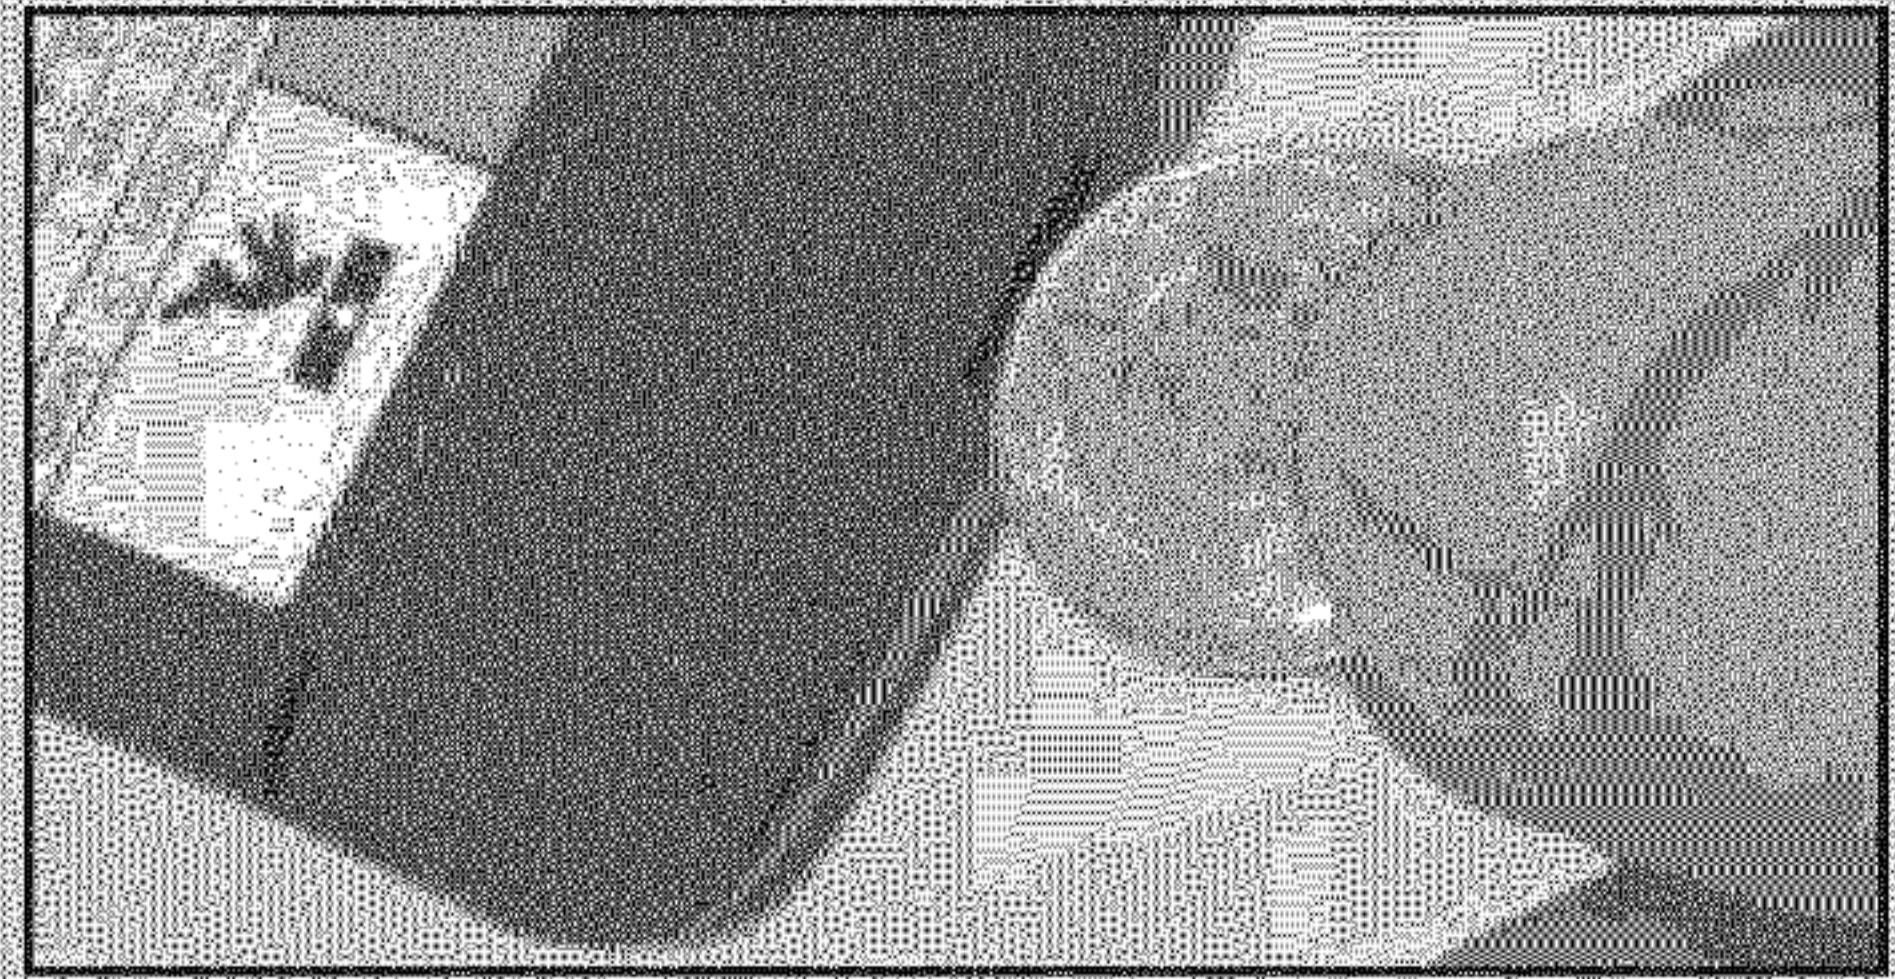

FIG. 9-1 Open battery cover.
- Gently push straight in on battery cover lock tab as shown (Fig. 9-1).